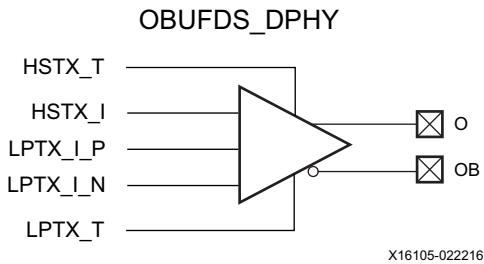

Figure 1-45: Differential Output Buffer Primitive (OBUFDS\_DPHY)
The differential output buffer primitive (OBUFDS\_DPHY) is only supported in the HP I/O banks in the Virtex UltraScale+, Kintex UltraScale+, and Zynq UltraScale+ devices (Figure 1-45). This UltraScale architecture specific primitive is for MIPI D-PHY transmitter implementation. The HSTX\_T port is used to 3-state the MIPI D-PHY high-speed (HS) transmitter. The LPTX\_T port is used to 3-state the low-power (LP) transmitter. The HSTX\_I and LPTX\_I(\_P/\_N) inputs are from the interconnect logic to the HS and LP transmitters,